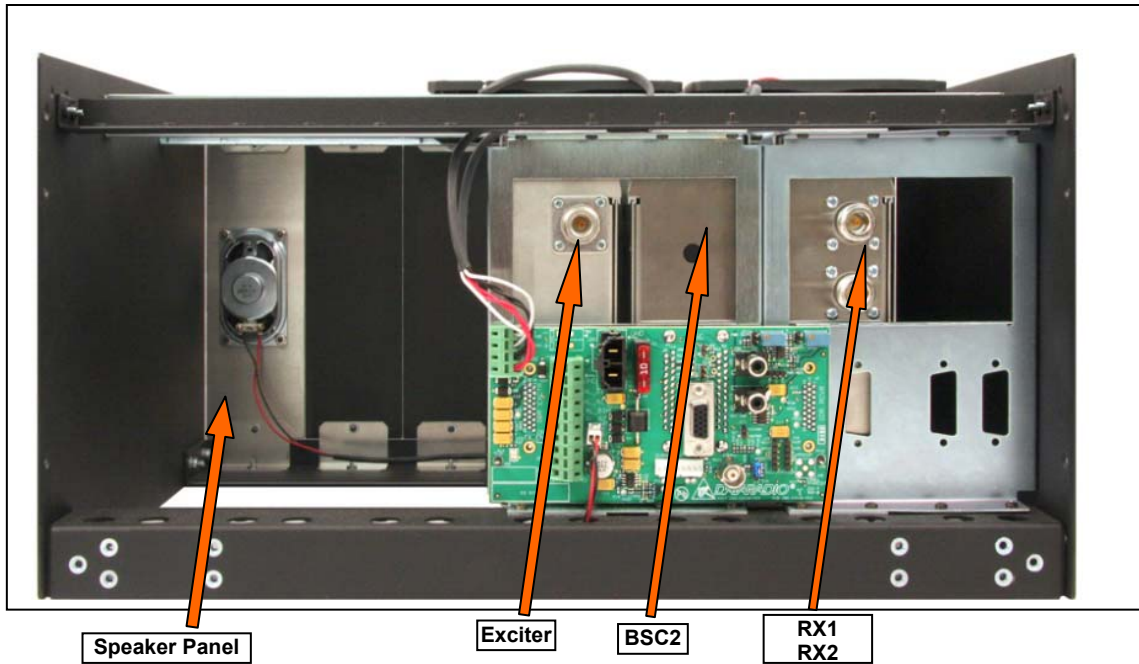

Figure 3 - Paragon4 unit rear view
The Crescend power amplifier receives its +13.8VDC power from the ICT DC power supply through a 10AWG DC power cable. In the standard configuration shown in Figure 3, there is no in-line fuse between the power supply and power amplifier, all the short-cct and foldback protection is done by the ICT power supply. In this configuration, the voltage drop through the power cable is minimize. Nonetheless, if required a DC power cable with an in-line fuse can be ordered from the factory.
- 2- Referring to Figure 3 for locating modules, terminate the RX-1 and RX-2 cable-ends at their respective module rear position with N-type connectors.